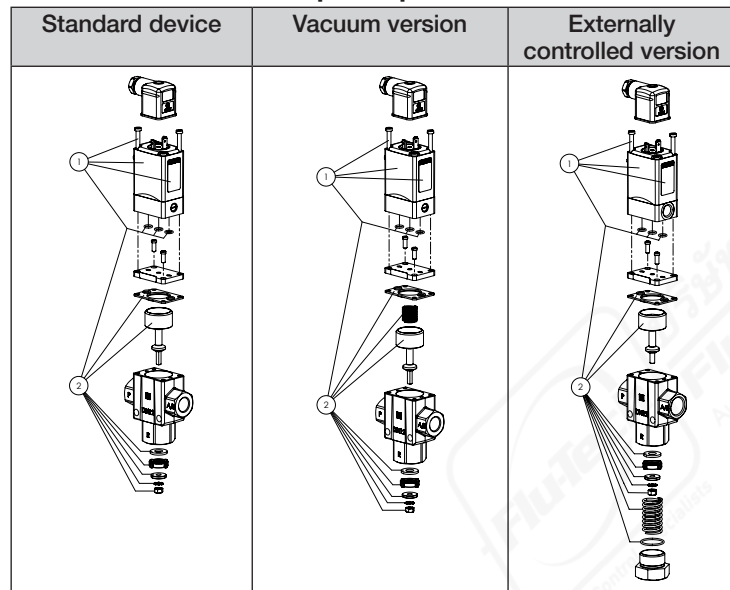

Fig. 2: Pilot control with solenoid (①), wearing part set (②)
pilot control with solenoid (“Fig. 2” pos.①) or the
wearing part set (“Fig. 2” pos.②)